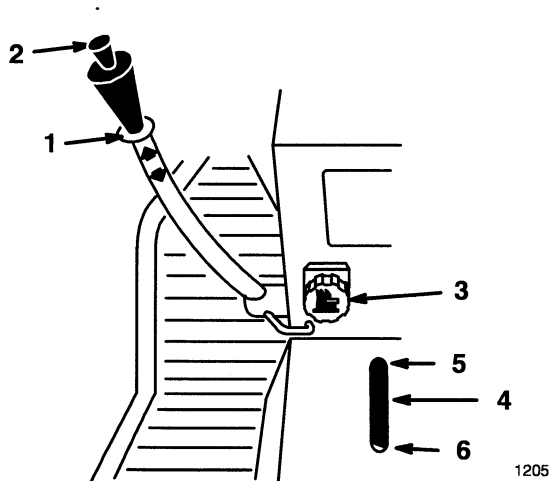

Figure 18
The attachment lift lever (on some models) (Fig. 18) is used to raise and lower various attachments.
The Dial-A-Height control (Fig. 18) is used to limit the downward travel of the attachment. The Dial-A-Height knob is rotated to change the location of this stop, up or down.
1. Raise the attachment lift lever: Refer to Raising Attachments. In the raised, position the Dial-A-Height knob (Fig. 18) can be rotated to change the stop location. Turn clockwise to raise and counterclockwise to lower the height of the attachment.
2. The Dial-A-Height indicator (Fig. 18) will show the change, high to low, in attachment lift height as adjustment is made.